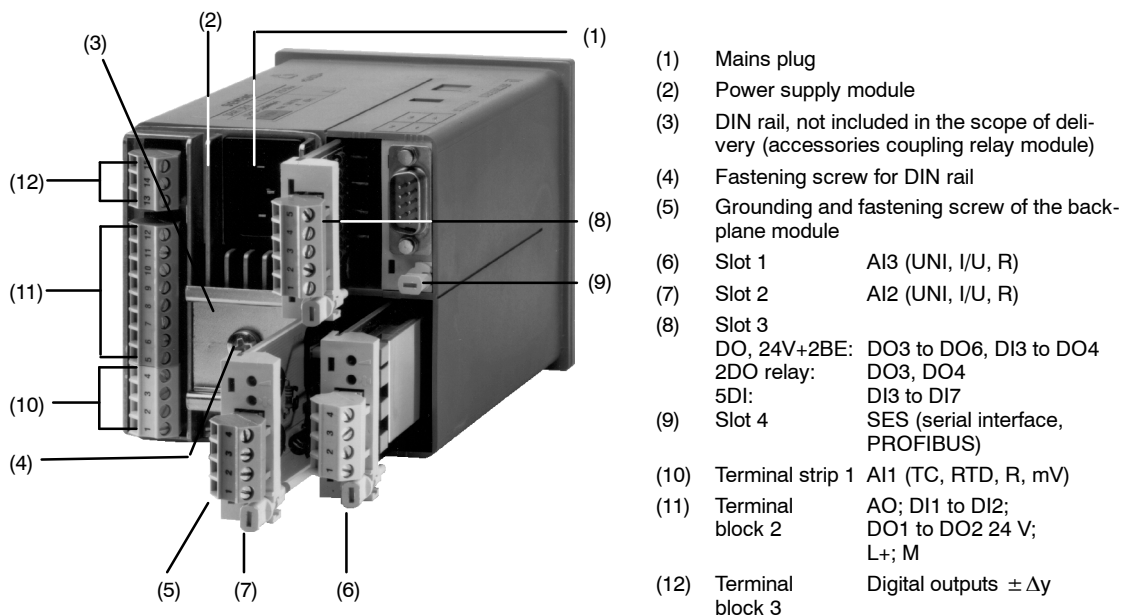
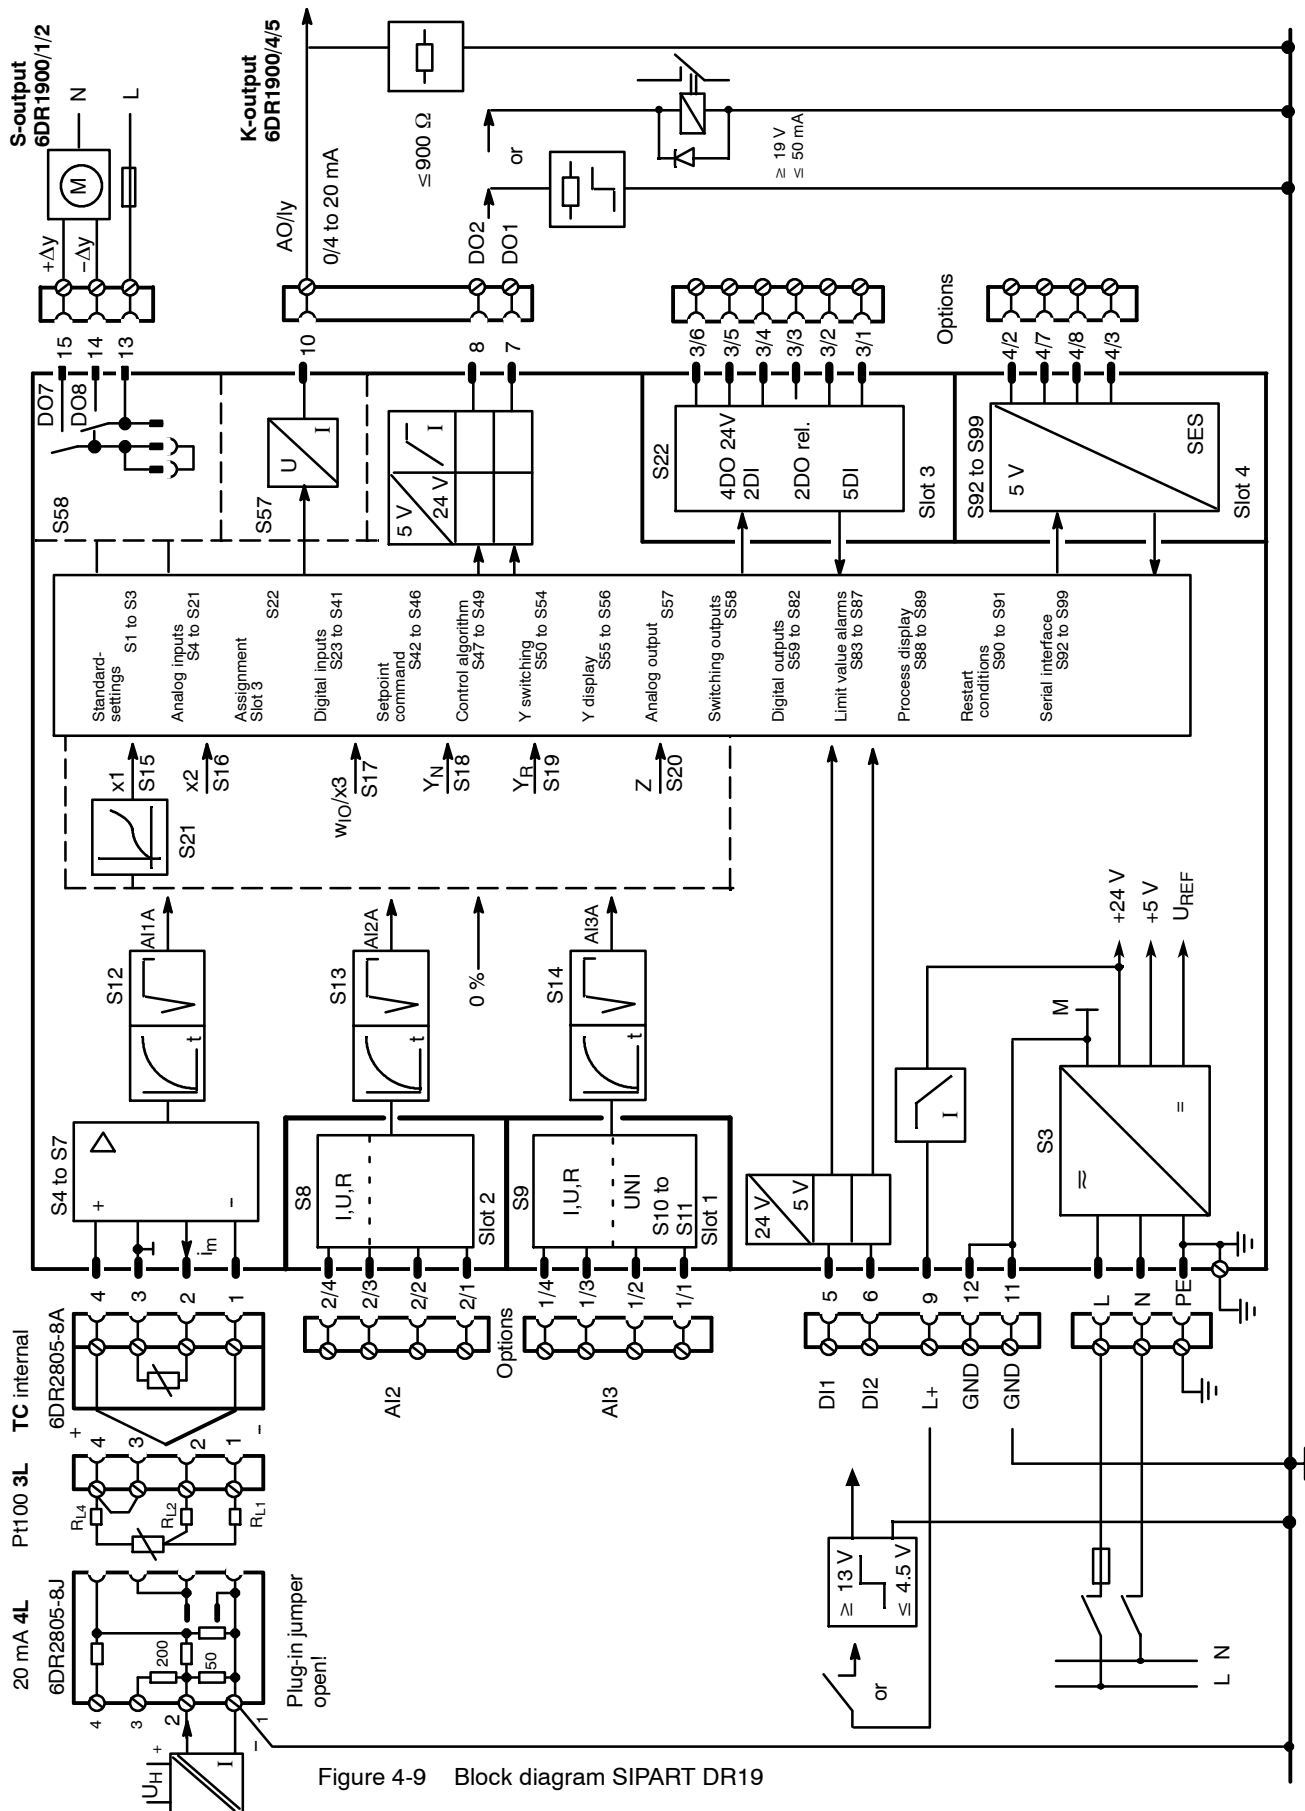

Figure 4-8 Controller backplane with terminal assignment of the standard controller
Figure 4-9 Block diagram SIPART DR19
Connect the PE conductor to the ground screw (see figure 4-8), page 136 on the back of the controller. When connecting to 115 V or 230 V AC-mains the PE conductor connection can also be fed via the three-pin plug (see figure 4-9, page 137). The controller’s ground-connection may also be connected with the PE conductor (grounded extra low voltages).
The coupling relay module should be snapped onto the DIN rail (figure 4-8, page 136) and wired to the digital outputs.
- 1) The connection between the PE conductor screw (figure 4-8, item 5, page 136) to ground must be established additionally for high electromagnetic compatibility (EMC) in 115/230 V-controllers. This connection must also be low resistive for high frequencies (Cu-band or Hf-strand). Alternatively at least 2.5 mm2 strand should be used.